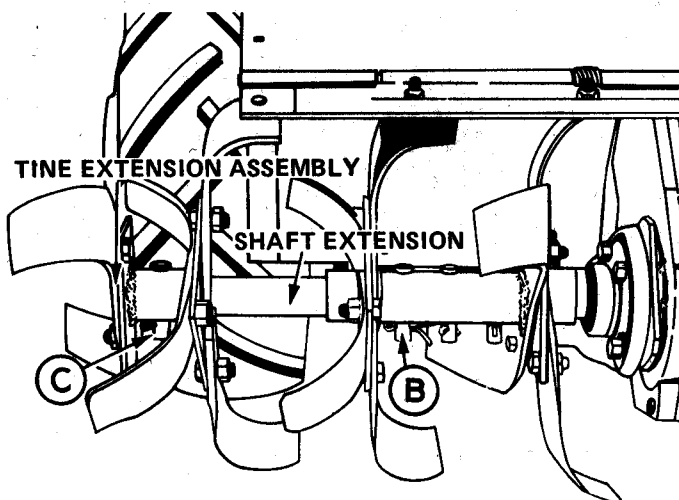

Figure 14
2. Install the shaft extension as shown in Figure 14. Secure at B with a drilled pin and cotter.
3. Secure tine extension assembly to the shaft extension with a drilled pin and cotter at C, Figure 14.